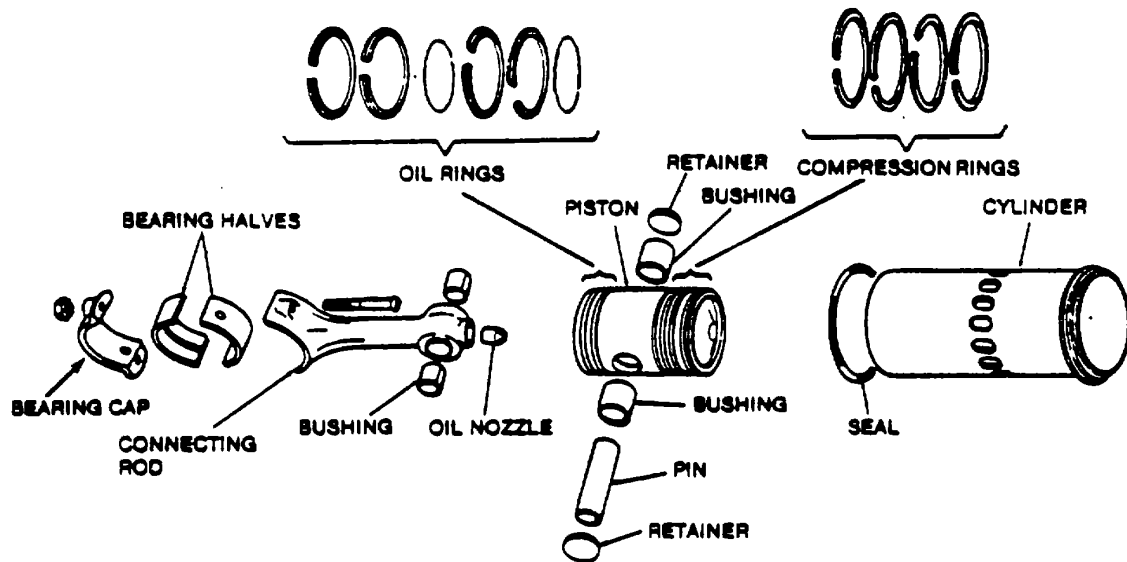

Figure 6-27. Piston Assembly.
(1) The trunk type malleable iron piston (Figure 6-27) is plated with a protective coating of tin which permits close fitting, reduces scuffing and prolongs piston life. Top of piston forms combustion chamber bowl and is designed to compress air into close proximity to fuel spray.
(2) Piston is cooled by a spray of lubricating oil directed at underside of piston head from a nozzle in top of connecting rod, by fresh air from blower to top of piston, and indirectly by water jacket around cylinder.
(3) Two bushings with helical grooved oil passages are pressed into piston to provide a bearing for hardened, floating piston pin. Each end of piston pin is sealed with a piston pin retainer.
(4) Each piston is fitted with six piston rings. Four compression rings are installed above piston pin and two, three piece oil control rings are installed below piston pin, eight equally spaced holes are drilled just below each oil control ring to permit excess oil to return to crankcase.